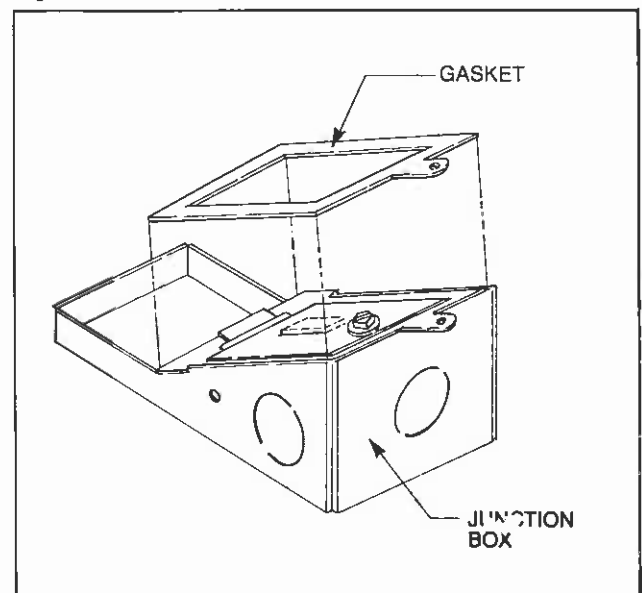

Fig. 2. Mount gasket to junction box.
1. The MBC36A and MBC42 Series fireplaces are equipped with provision to install two (2) single speed fans.
2. Install the gasket to the mating face of the junction box. Remove the paper from the adhesive surface of the gasket and mount the gasket to the junction box, as shown in Fig. 2.